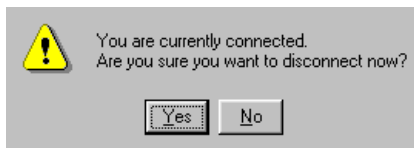

Figure 11: Disconnect Now dialog box
11. Choose **File > Exit** to close the HyperTerminal window. A message box displays (Figure 11).